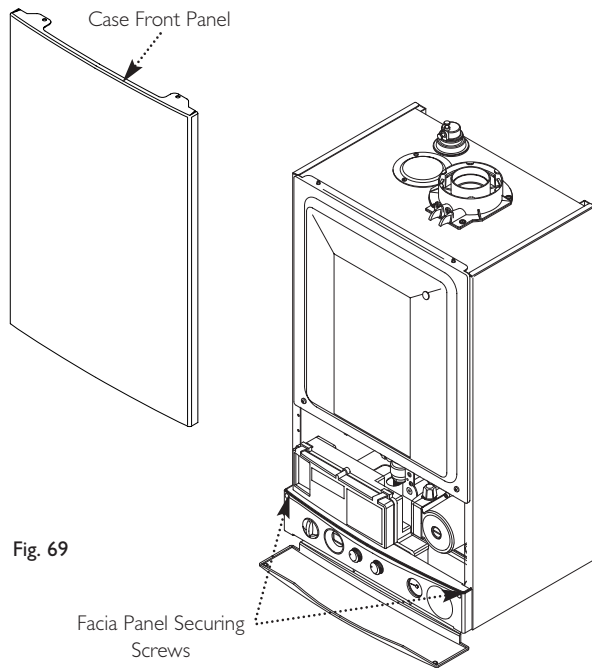

Fig. 69
5. Slacken the screws securing the facia panel. Lift the outer case panel so that its securing tabs are clear of the facia. Remove the panel, allowing the facia to hinge down (Fig. 69).